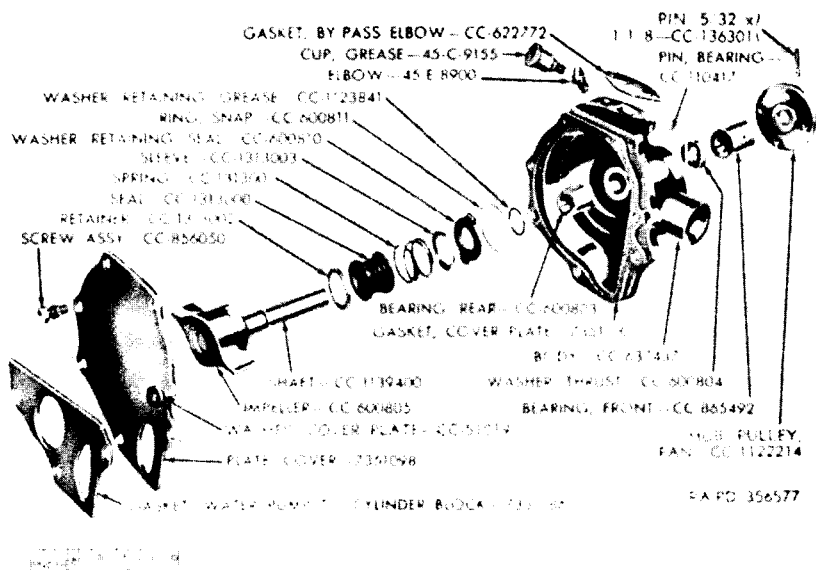

Figure 76. Water pump—exploded view.
- (3) Slide the outer rotor into place in the pump body; then install a new cover gasket.
- (4) Install the cover and tighten $\frac{1}{4}$ -20 x $\frac{5}{8}$ with lock washer screws evenly to insure uniform contact against cover gasket.
a. General. The water pump (fig. 76) should be rebuilt when bearings or seals become ineffective. The following procedure can be used to rebuild the water pump, provided the housing is not cracked or damaged.